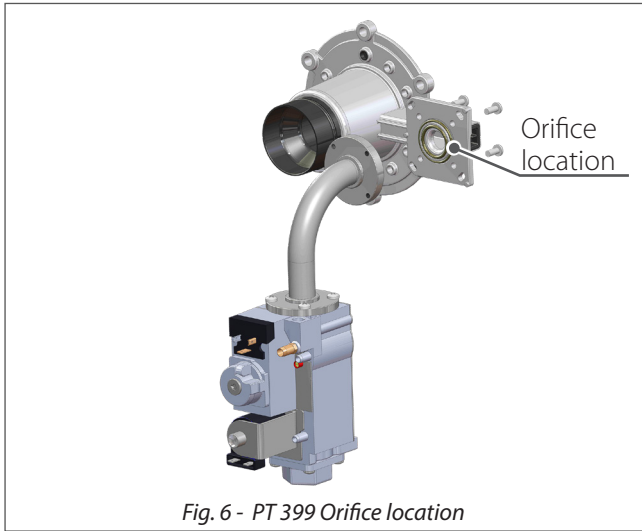

Fig. 6 - PT 399 Orifice location
1. Remove 4 screws securing the 90° gas pipe to the venturi and check the presence of an orifice and its size (see *Fig. 6*).